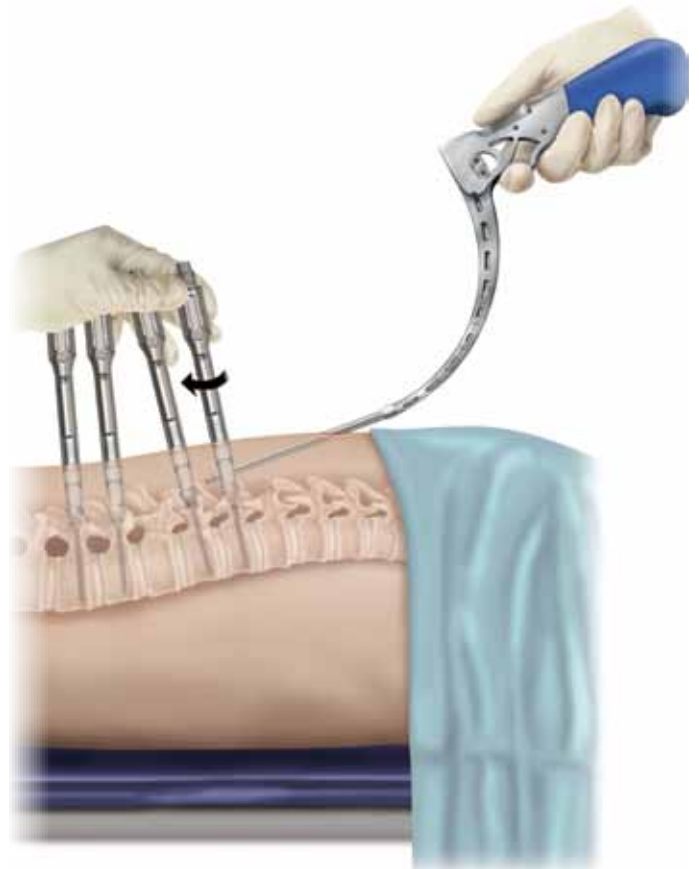

Figure 44
2. If using Multi-axial Screws, rotate the Extender by hand (**Figure 44**). If the Extender rotates freely, then the Rod has not passed through the Extender.